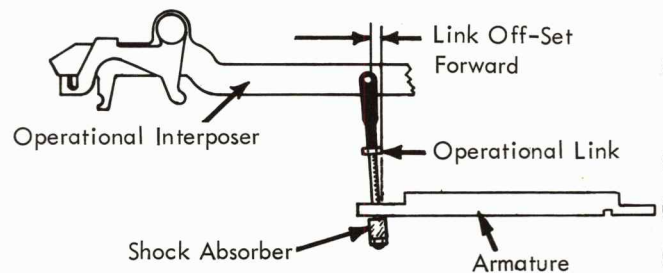

FIGURE 128.4 Front to Rear
- b. Front to Rear - so that the armature link holes are slightly to the rear of the interposer link holes (Fig. 128.4).